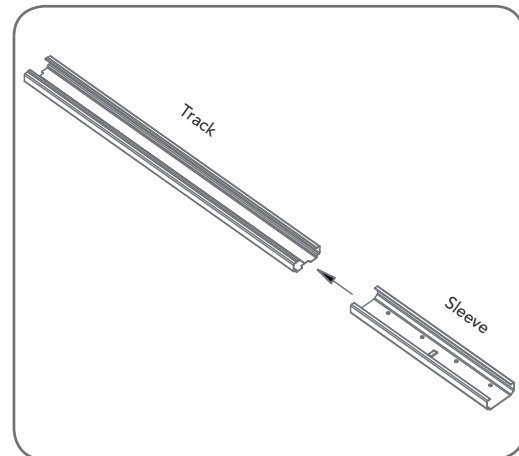

fig 05
- Slide sleeve onto the track section (Fig. 05). Connect track by sliding sleeve onto next track section. Tap track assembly on piece of wood until track sections are flush. Repeat with remaining track sections.